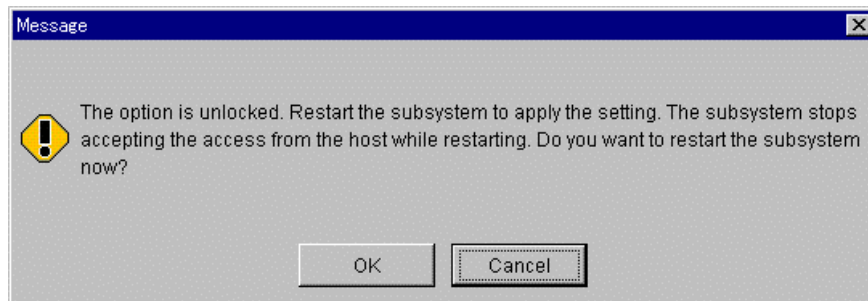

Figure 4.4 Restart After Unlock
7. A message appears, confirming that the SNMP feature is opened. This message also asks you to restart the system (see Figure 4.4). Click the **OK** button.